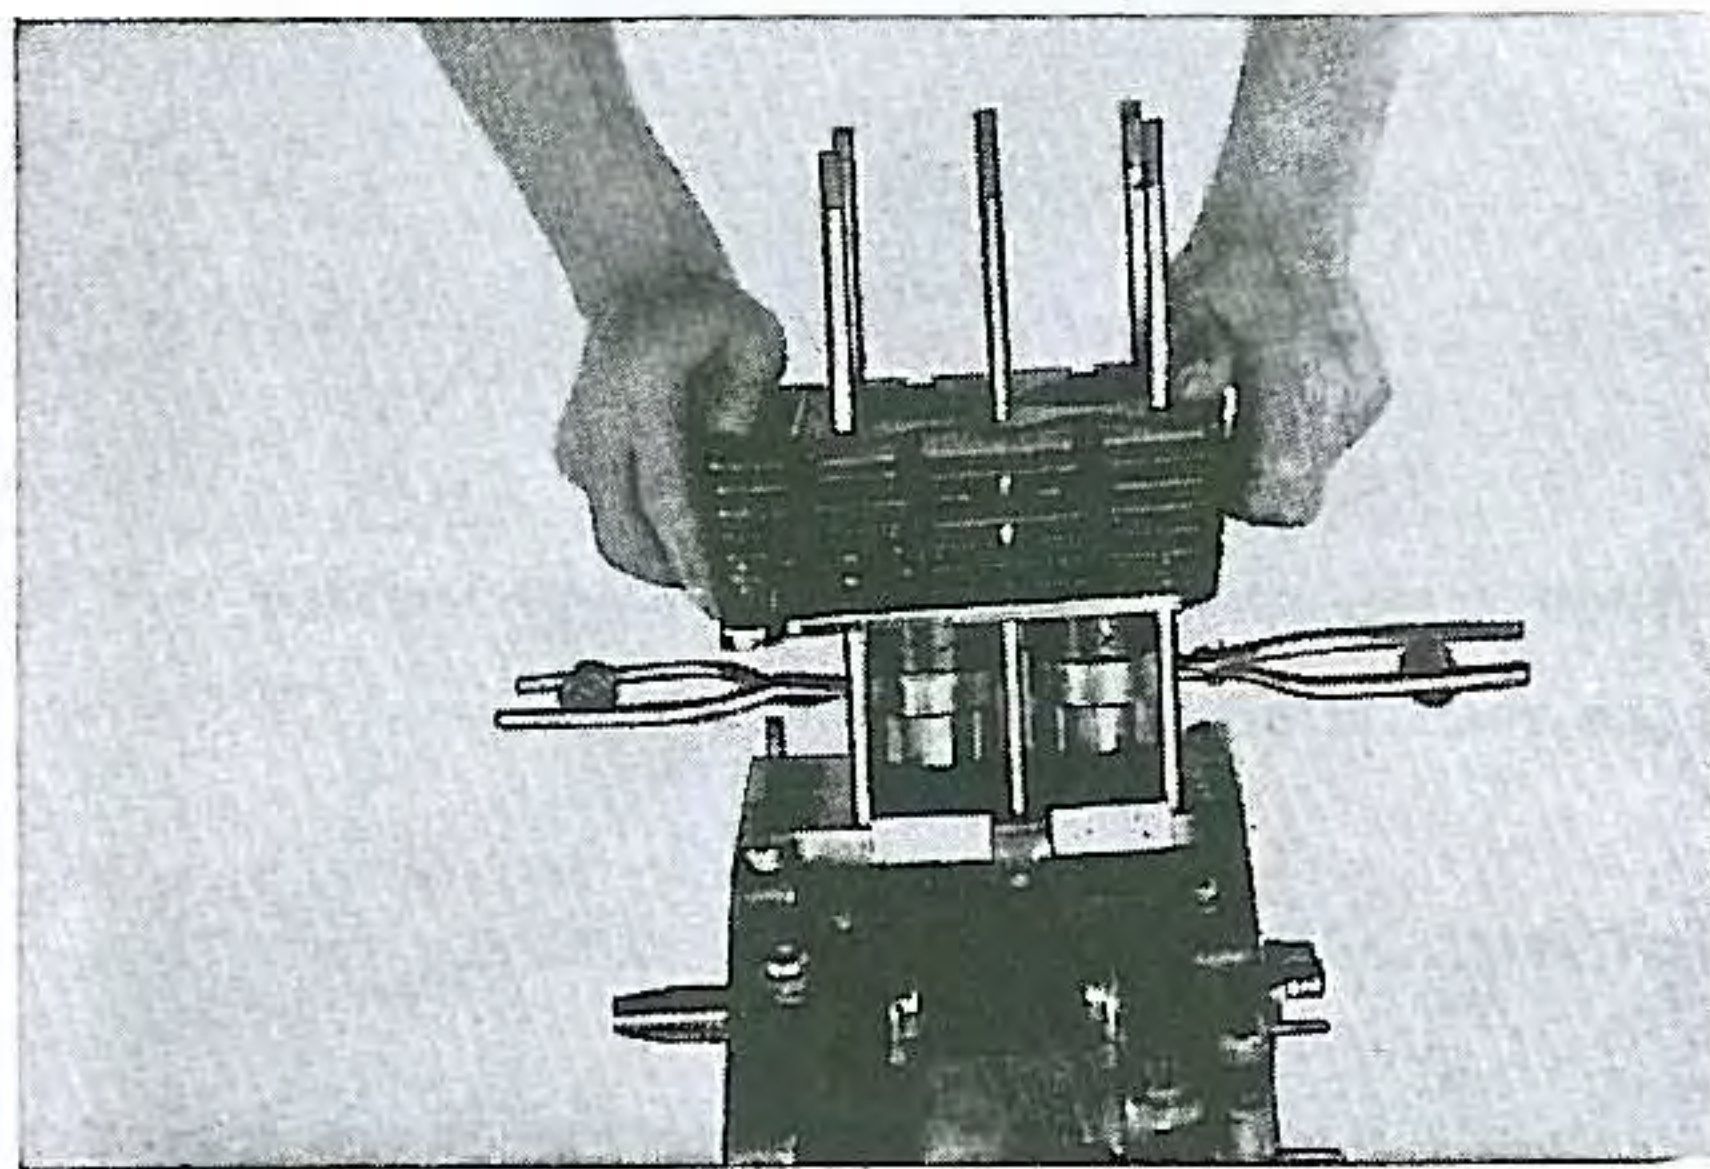

Fig. 61. Installing cylinder
- (3) Place the cylinder packing on the crank case. Be sure it is placed so that the holes correspond and that the oil passages are open and matched correctly. Lock the pistons at top dead center by placing a wooden block between the piston skirts and the crank case. Fit piston ring compressors around the rings on both pistons. Install the cylinder block onto the pistons, tapping it down gently with your hand. Remove ring compressors and wooden block after the rings are fitted into the cylinders. (Fig. 61)